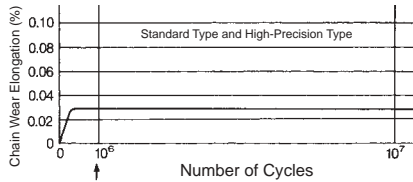

Figure 3.5 After Installation, Precision Chain Has No Elongation
- (1) Immediately after installation, the chain stretches a little (less than 0.03 percent) to fit the contacting surface of chain parts. After that, it doesn't stretch (Figure 3.5). The results include the following points: